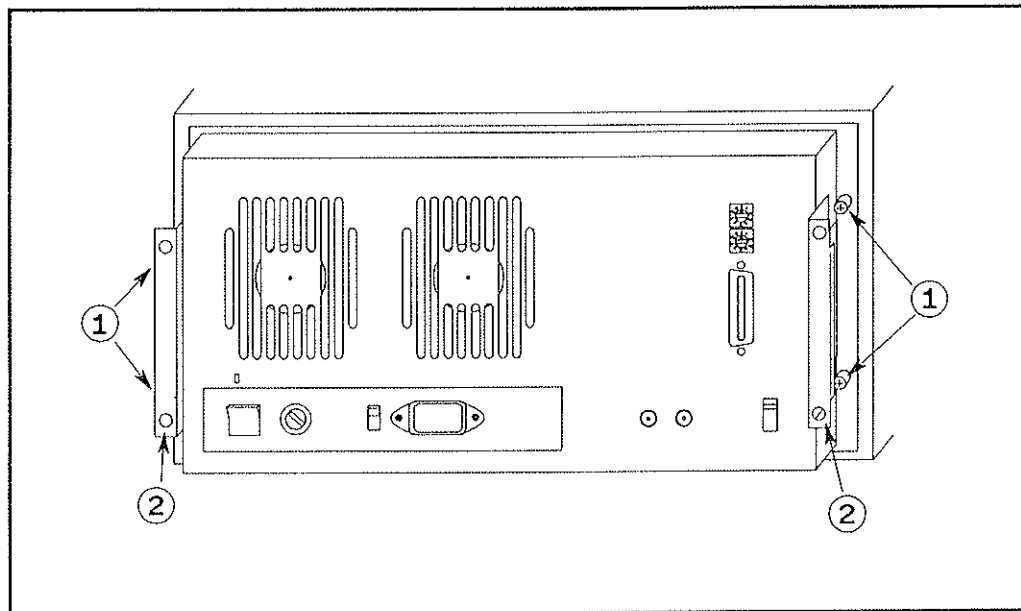

Figure 3-33. Removing the Power Supply Unit from the DCS
2. Loosen the four screws ① from the flanges that secure the power supply unit to the DCS as shown in Figure 3-33.
3. Pull the power supply unit out by grasping the lower part ② of the flanges.